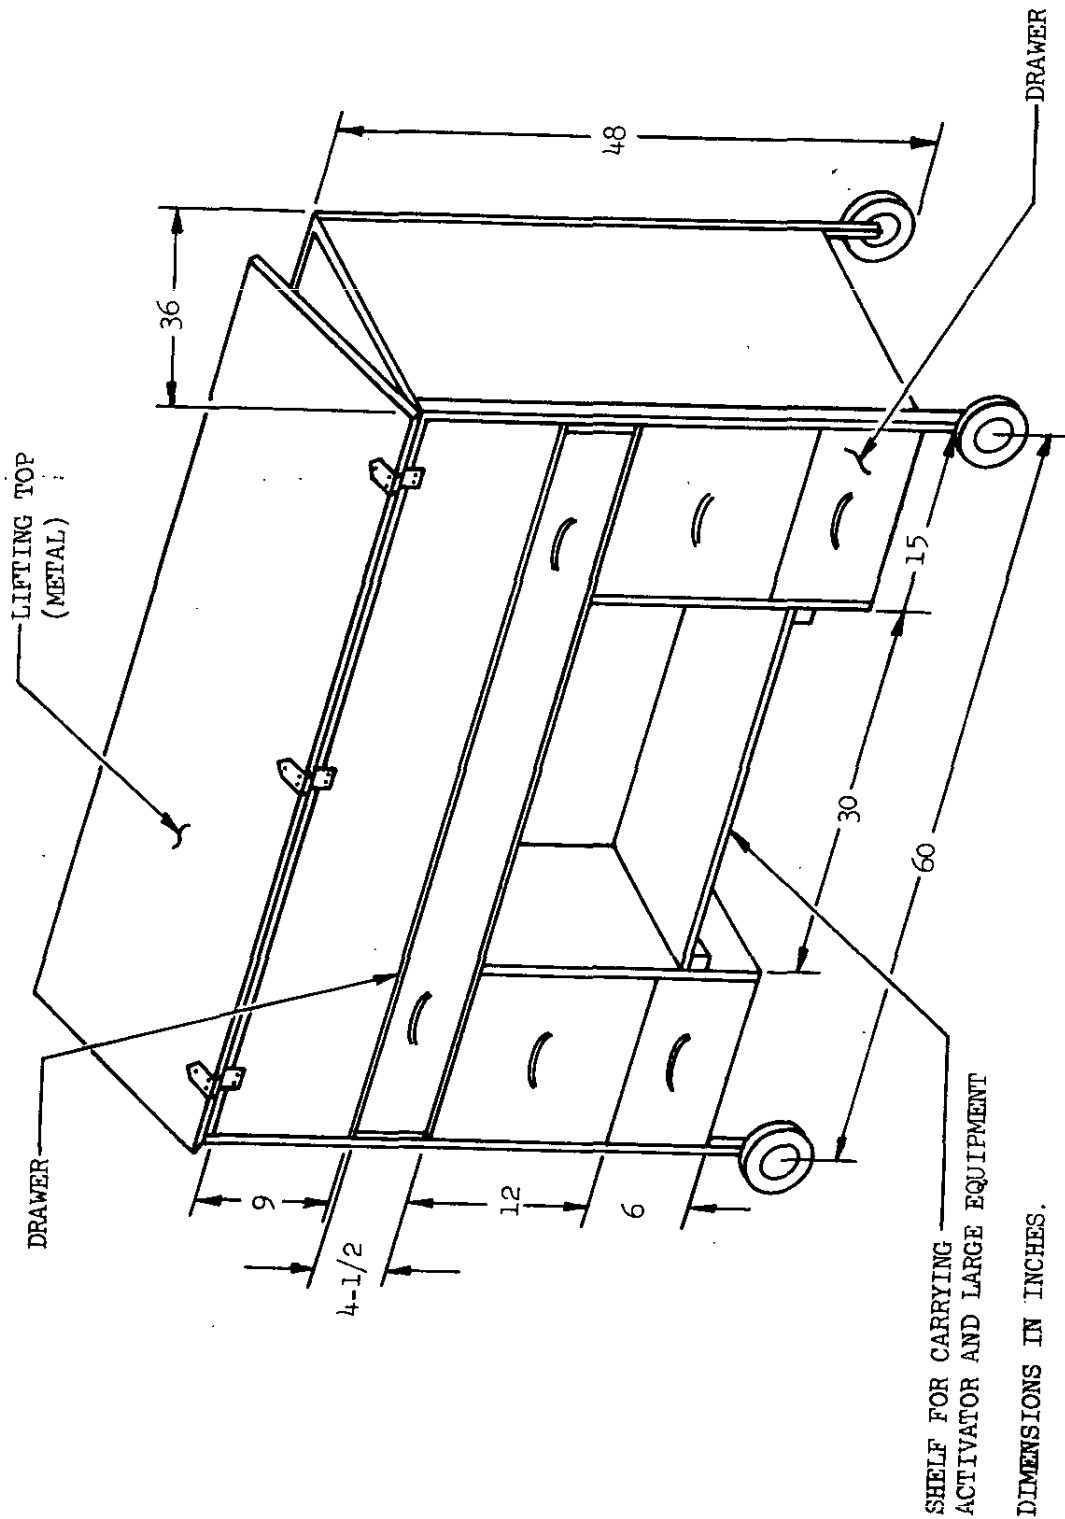

Figure 1. ROLL-AWAY TYPE CART
6.1 Cart - A small roll-away type cart with smooth metal top covered with kraft-type paper and having two or more drawers with a lifting top to carry decalcomanias may be used for the application of large exterior decalcomanias. These carts may be manufactured locally as required. See Figure 1.